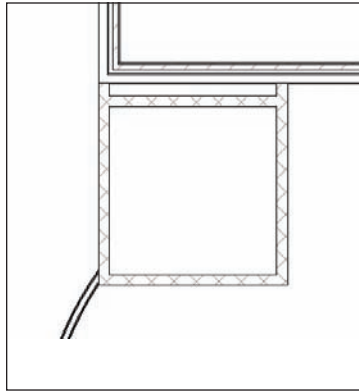

FIGURE 2.48 The northeast corner
1. Zoom into the northeast corner of the building, as shown in Figure 2.48.